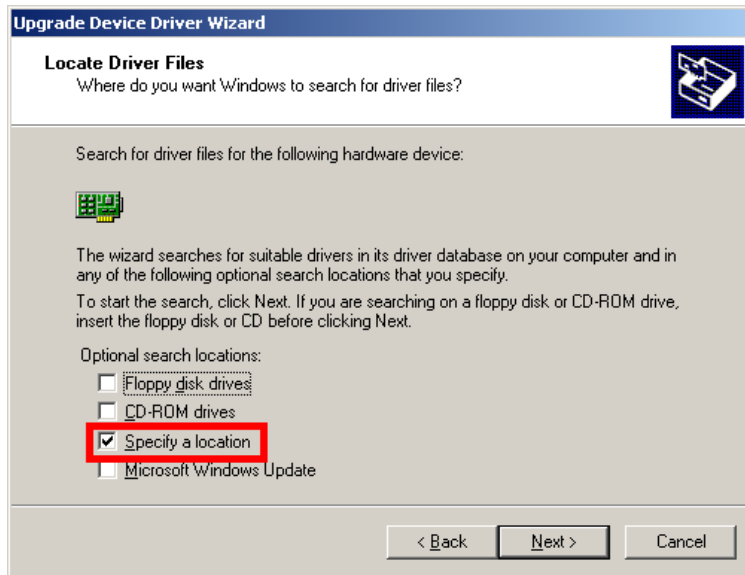

Figure 7-38: Locate Driver Files
Step 8: Select “**Specify a Location**” in the **Locate Driver Files** window (Figure 7-38).